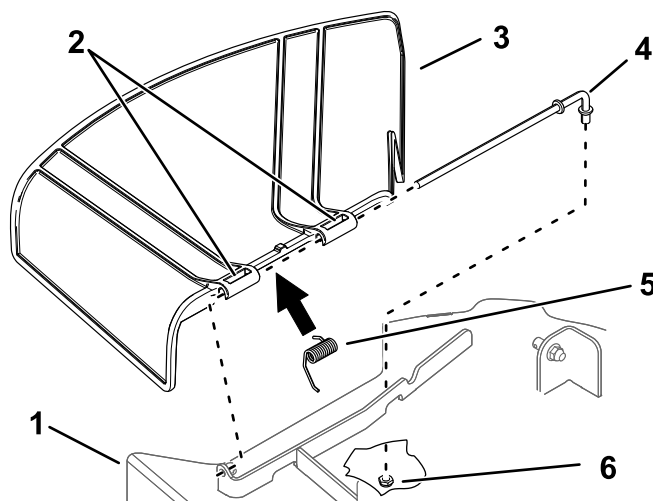

Figure 66
1. Remove the nut (3/8 inch) from the rod under the mower (Figure 66).
9. Secure the rear end of the rod into the mower with a nut (3/8 inch) as shown in Figure 66.